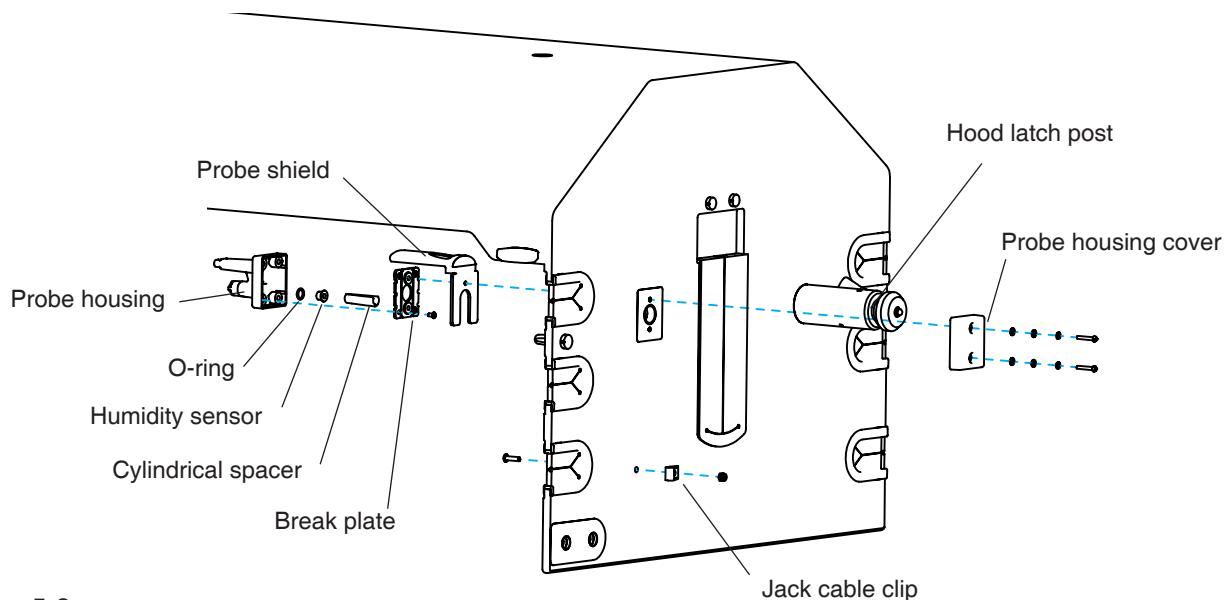

Figure 5-3
5.3 Compartment Probe Repairs (Figure 5-3)